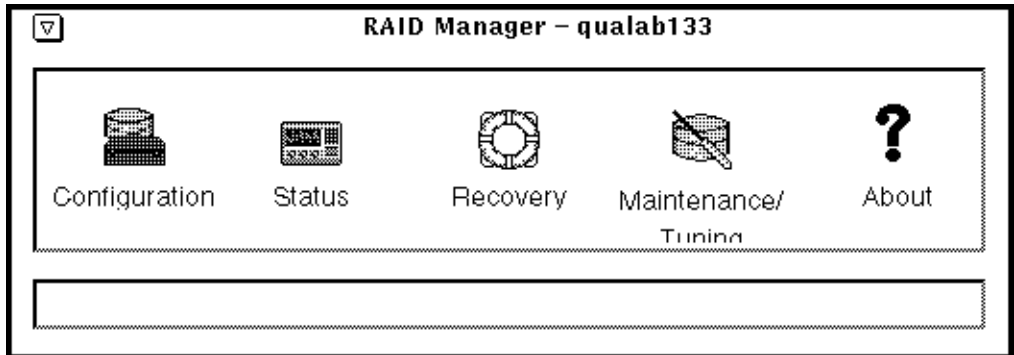

FIGURE 2-2 Application Icons
- **From the application icons, (FIGURE 2-2), double-click the appropriate icon for the program application you want to start.**